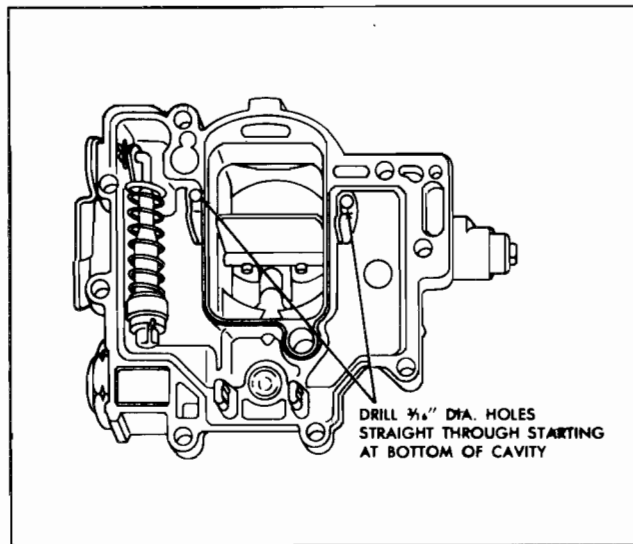

Fig. 6—Vent Hole Location (Inside View)
3. Drill two (2) $\frac{3}{16}$ " diameter holes in each bowl cover located as shown in Figure 6 on the reverse side. Holes must be drilled straight